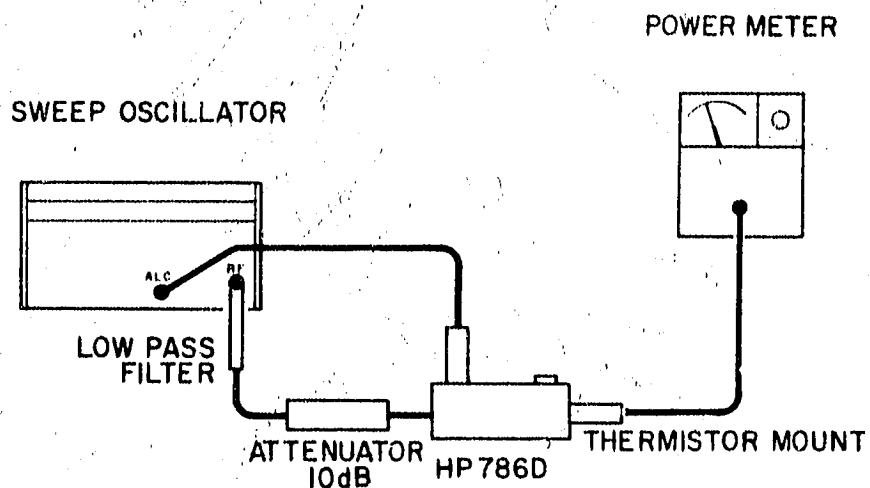

Figure 7. Frequency Response Check
a. Set up test equipment as shown in Figure 7. While the purpose of the low pass filter is to eliminate the effects of harmonics in the sweep oscillator output it is not effective at the lowest frequencies because of its octave pass band. As a result, harmonics can cause out of tolerance indications at these lower frequencies. The attenuator shown at the input to the directional detector should be large enough to hold the power reaching the thermistor mount below the damage level (30 mW average for the Model 478A).
a. Set up test equipment as shown in Figure 7 with the following exceptions: the 10-dB Pad should be connected between 786D and 478A and detected output connected to a dc voltmeter through a BNC-to-binding post adapter.